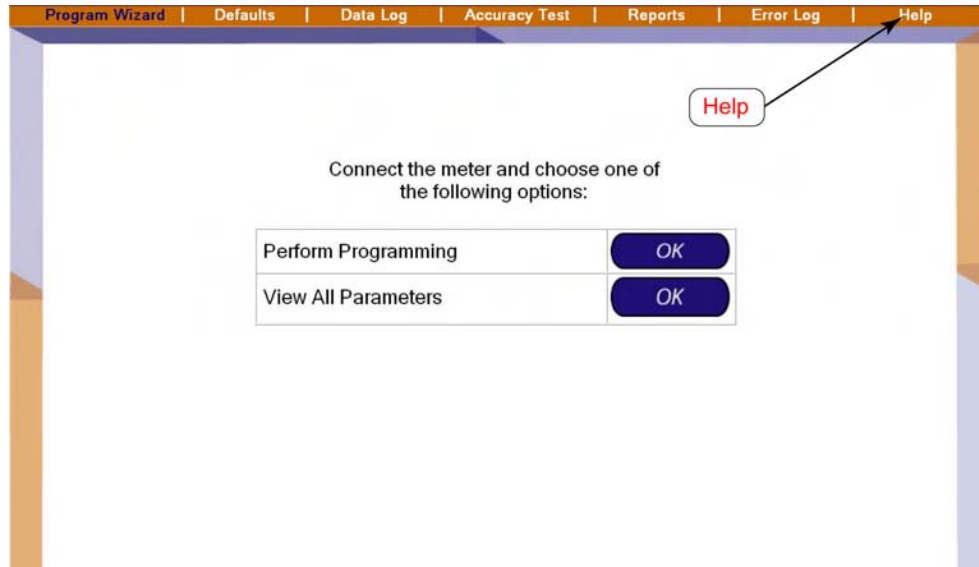

Figure 2-2: Selecting Help
1. Double-click on the UniPro icon on your desktop. The UniPro Program Wizard screen is displayed (see Figure 2-2).